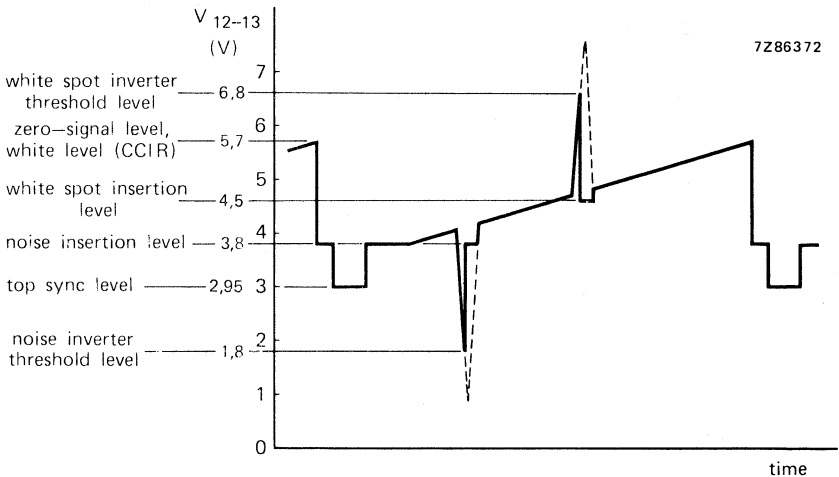

Fig. 4 Video output waveform showing white spot and noise inverter threshold levels.
**White spot and noise inverter** (see Fig. 4)